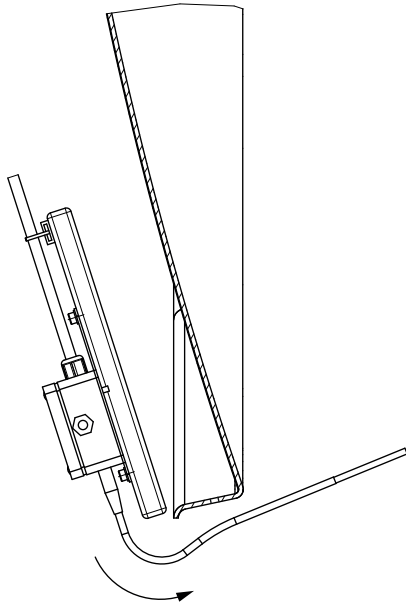
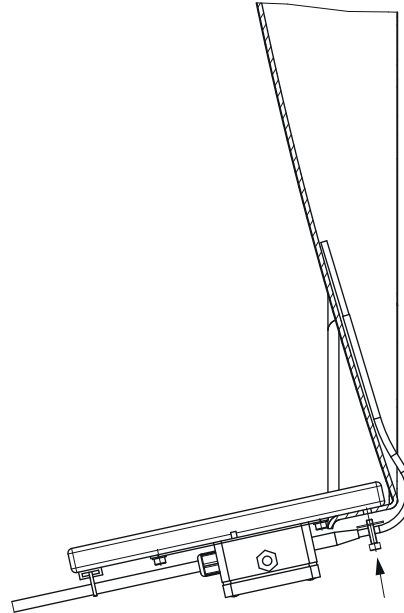

Fig. 1
Fig. 2
1. Pivot the sensor unit over the edge of the reflector (Fig. 1), guide the screw and washer (1) through the pre-drilled hole and screw into the aluminium profile (Fig. 2) but do not tighten securely yet